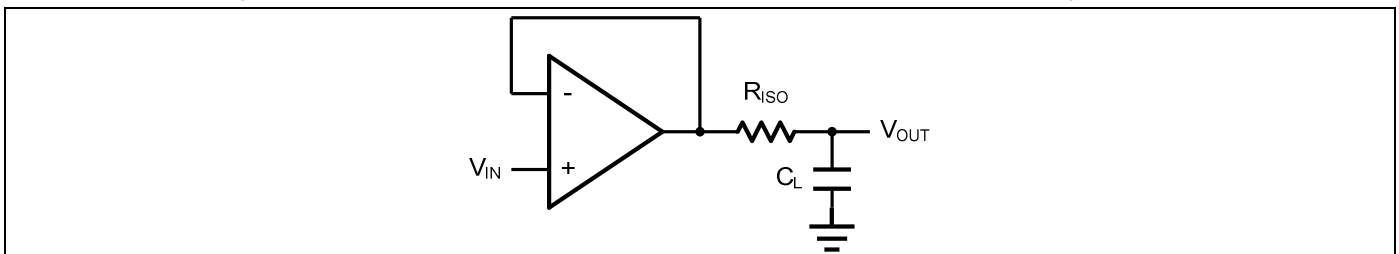
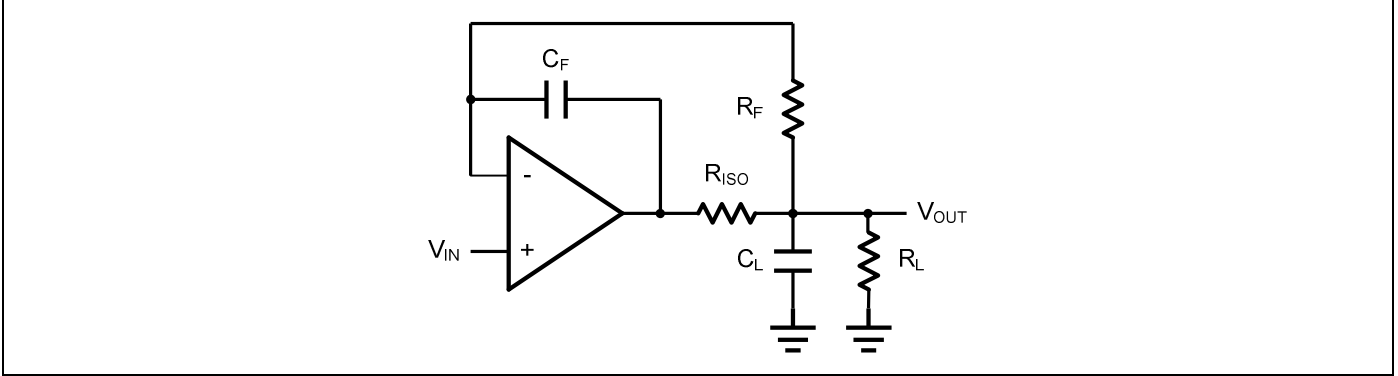

Figure 2 Indirectly Driving a Capacitive Load Using Isolation Resistor
Figure 3. Indirectly Driving a Capacitive Load with DC Accuracy
The MCP6001 family is optimized for bandwidth and speed, not for driving capacitive loads. Output capacitance will create a pole in the amplifier's feedback path, leading to excessive peaking and potential oscillation. If dealing with load capacitance is a requirement of the application, the two strategies to consider are (1) using a small resistor in series with the amplifier's output and the load capacitance and (2) reducing the bandwidth of the amplifier's feedback loop by increasing the overall noise gain. Figure 2 shows a unity gain follower using the series resistor strategy. The resistor isolates the output from the capacitance and, more importantly, creates a zero in the feedback path that compensates for the pole created by the output capacitance.
The circuit in Figure 3 is an improvement to the one in Figure 2. R_F provides the DC accuracy by feed-forward the V_{IN} to R_L . C_F